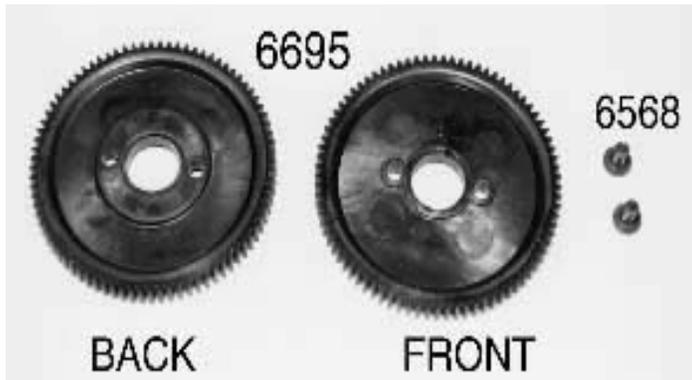

Fig. 77
□ **Figs. 77 & 78** Open bag #7-15 and remove the #6695 87 tooth 48 pitch Assoc. spur gear. From bag F remove two #6568 4-40 x 3/16" BHCScrews. Mount the spur gear with the back side (which has a raised circle about the diameter of a quarter in the center) towards the torque clutch assembly. (This is the side without the molded spur gear number.) Line up the two hub mounting holes with the gear mounting holes and install the 3/16" BHCScrews. **Note:** Do your best to press on the spur gear evenly and then try and tighten the mounting screws evenly. This will help to prevent any warping of the spur gear causing gear meshing problems.